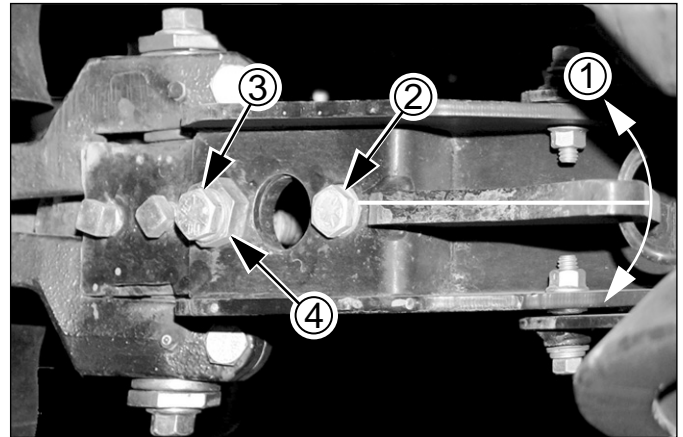

Figure 76
3. Centering (see Figure 76 on page 63)
**Refer to Figure 76**
3. Loosen the  $\frac{1}{2}$  inch hex-head bolts ② and ③.